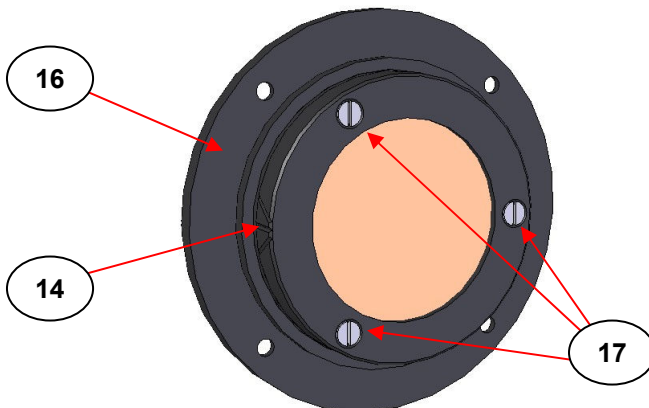

Fig 14. Removed Assembly of Polarizer Already Fitted to the Circular Plate for a Polarizer Replacement
The initial presetting of the rotator mount (1) for an angle of 90° from the rotating ring (6) angle mark aligning with the angular notch indicator (9) is still required, but after removal of the circular plate (16) by unscrewing of the four fixing screws (15), an originally fitted GS57010 Series polarizer will be removed affixed to the circular plate (16). (See Fig 14.) The procedure for replacement of a polarizer is a straightforward swap over after the fixing screws (17) have been removed and the new polarizer to fit has been aligned accordingly for the 'V' notch mark (14) orientation.